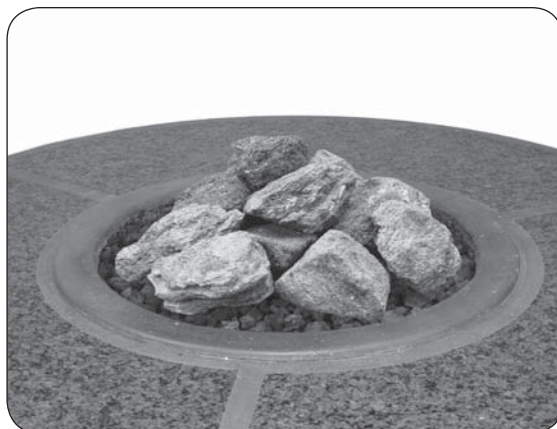

Fig. 25-2 Volcanic stones option
2. Pour the volcanic stones evenly into the burner area (see Fig. 25-2). The stones may form a mound. **Store any excess media in a safe location.**